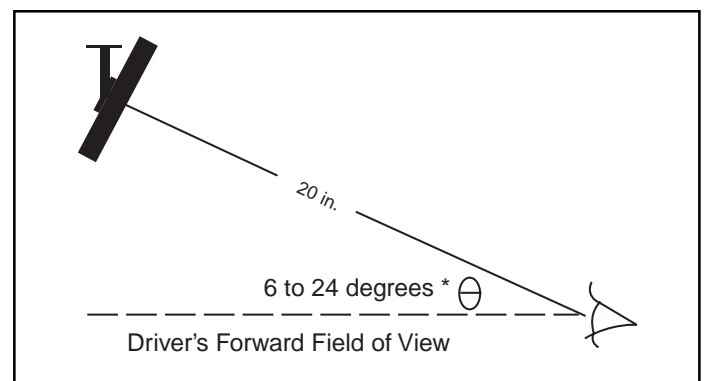

Figure 5 Optimal Overhead Mount Sight Distance
- Position the display on the headliner approximately 20 in. away (or as close as possible to 20 in. away) from the driver's eyes. See Figure 5.